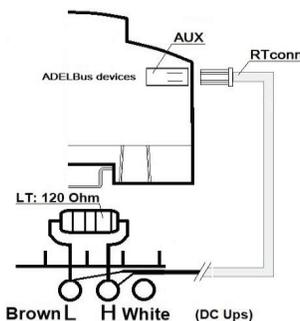

Fig. 4 –Connection RTConn cable
For the ADELBus connection, please connect the cable RTConn to AUX1 on the device as shown in Fig.4 and connect the other side of the cable to the CAN terminals L (Brown) and H (White) of the CBI60, with a line termination (LT) resistor 120 Ohm, present inside the cable kit.